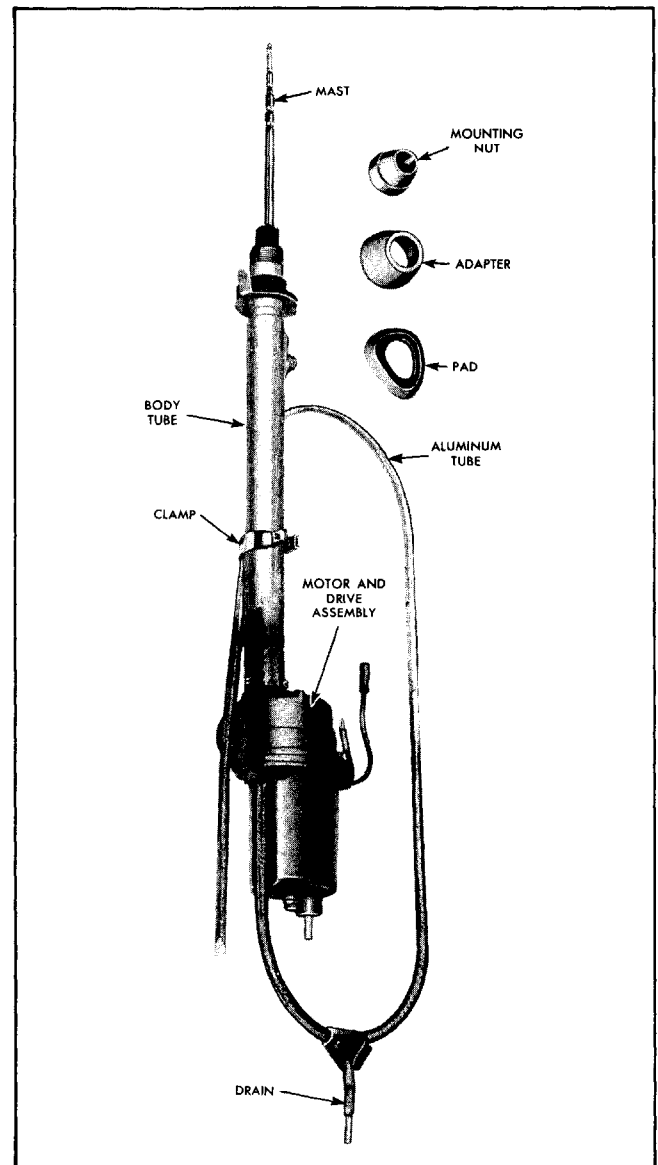

Fig. 14-2 Motor Driven Antenna
4. Inspect aluminum tube to make sure it is free of any obstruction due to mutilation or broken nylon strip. Check hole in drain shield on aluminum tube to be certain it is open. Insert nylon strip in tube, position tube on antenna assembly as shown in Fig. 14-2 and fasten aluminum tube to motor using two attaching screws.